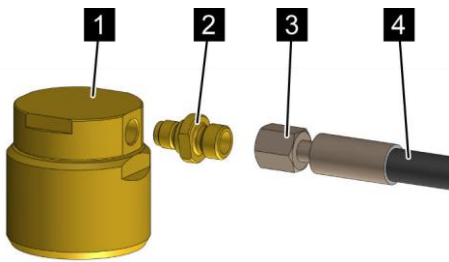

Fig. 84: Connecting the pilot line
6. ➤ Screw the adapter (Fig. 84/2) into a control connection of the pneumatic release device (Fig. 84/1) of a "slave" extinguishing agent container and tighten with 8 ± 2 Nm (5.9 ± 1.5 ft-lb).
7. ➤ Connect the DN4 hose ($\frac{5}{32}$ " ; Fig. 84/4) with the adapters. To do this fit the hose onto the adapters and screw the cap nut (Fig. 84/3) with a wrench onto the thread of the adapter without using sealant.